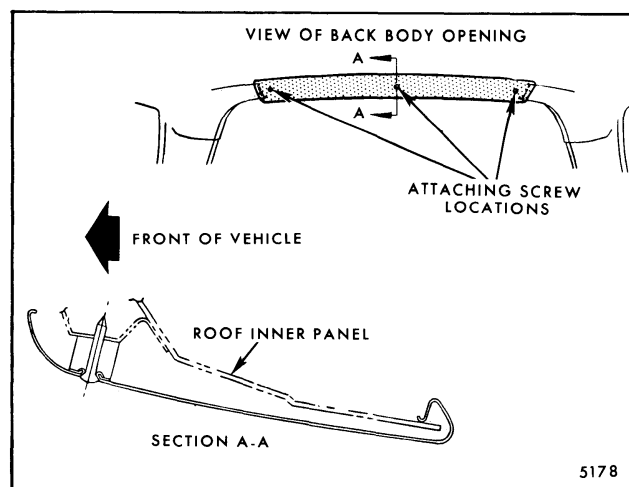

Fig. 7-66-Back Body Opening Upper Finishing Molding
1. Remove screw retained back body opening upper finishing molding (Fig. 7-66).